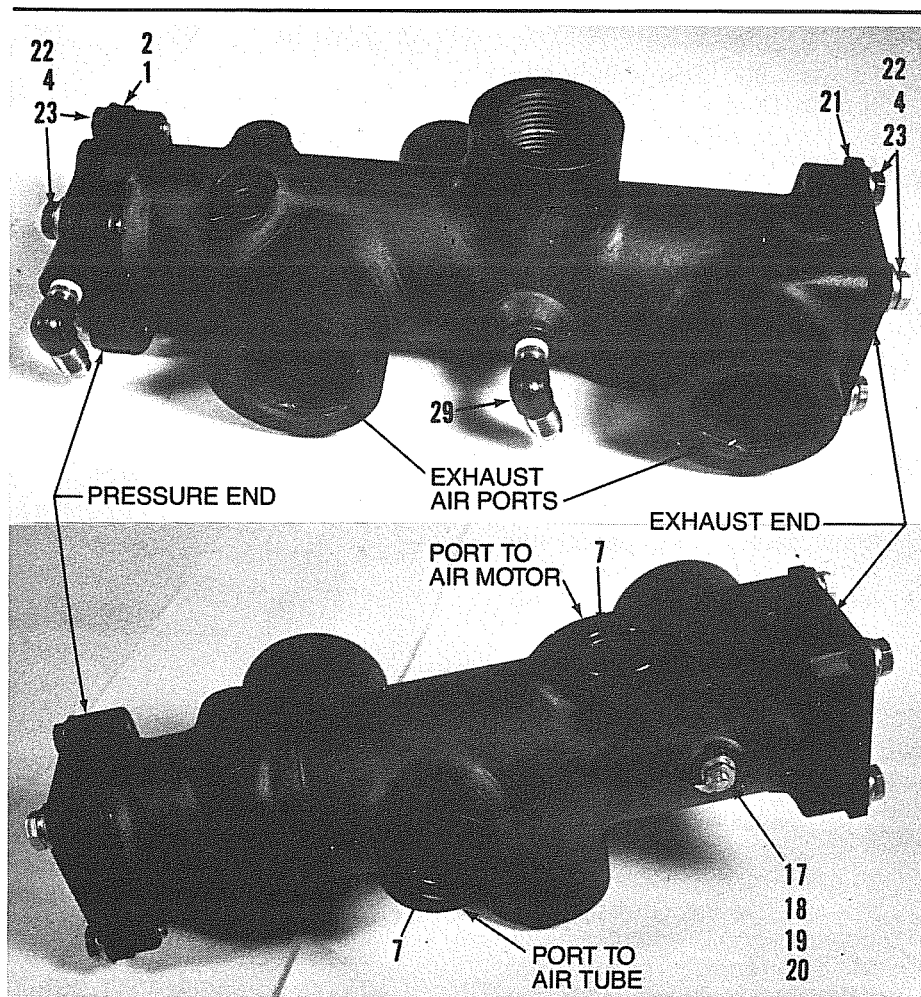

Figure 7-7, Assembled air shuttle assembly.
7.1.5 Before closing this end of body, check to be sure set screw (27) which plugs air passageway is installed. Lubricate o-ring (2) with petroleum and insert into groove in pressure end cap (1). Bolt pressure end cap to body (16) with four each flat washers (23), lock washers (4) and screws (22). See Figure 7-7.
7.1.6 Reverse position of body (16) in vise. Bolt exhaust end cap (21) to body with four each flat washers (23), lock washers (4) and screws (22). See Figure 7-7.
7.1.7 Coat two o-rings (7) with petrolatum and insert into air-shuttle body (16) ports, one to top of air end plate (50) and the other to air tube (92). See Figure 7-7.